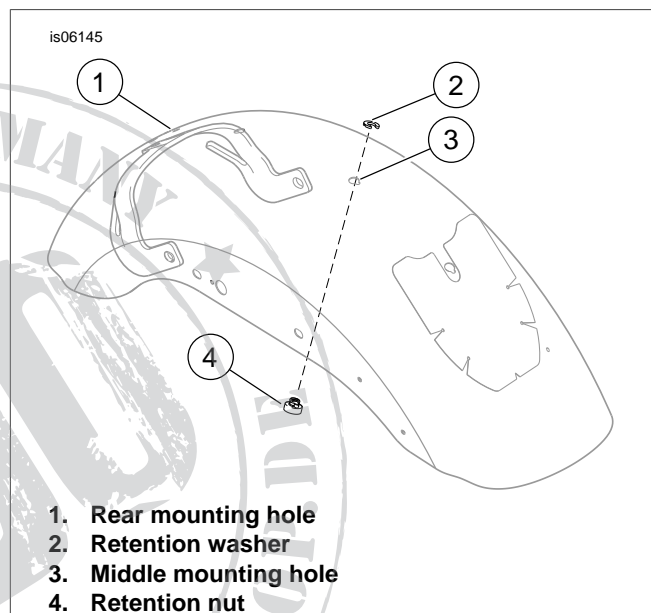
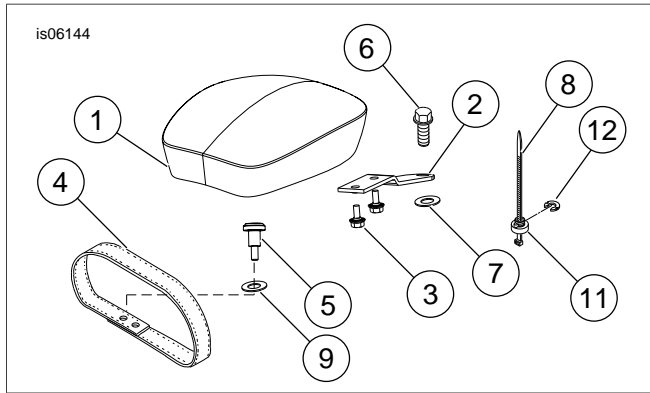

Figure 1. Fender Mounting Holes
Figure 2. Service Parts: XL Passenger Pad
See Figure 2 and Table 1.
- a. See Figure 2. A cable strap may be used as an installation aid to install the retention nut and washer. Place the retention nut (11) over the cable strap (8) so the wide end of the nut rests on the eye of the cable strap. Thread the cable strap up under the fender and through the appropriate fender hole. Pull up on the cable strap to hold the nut snug against the underside of the fender.
- b. With the rib on the retention nut seated into the notch in the appropriate fender hole, slide the retention washer (12) into place from the rear. This will lock the retention nut in place. Remove the cable strap.
2. Install the shoulder bolt (5) into the middle mounting hole (Figure 1, item 3) through the washer (9) and grab strap (4). Tighten the bolt securely.
6. See Figure 2. Install the screw (6) through the mounting bracket (2) and into the rear fender.